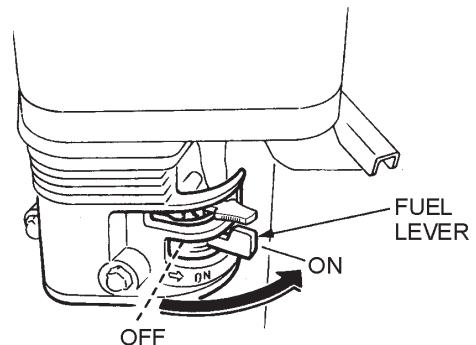

Figure 17. Engine Fuel Valve Lever
3. Place the **fuel valve lever** (Figure 17) to the "ON" position.